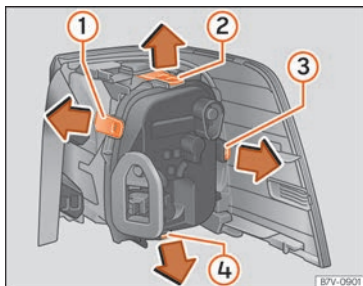

**Fig. 71** Tail light unit in the bodywork: removing the bulb holder.
- To release the bulb holder, press on the attachment tabs » **Fig. 71 ①** to **④** in the direction of the arrow.